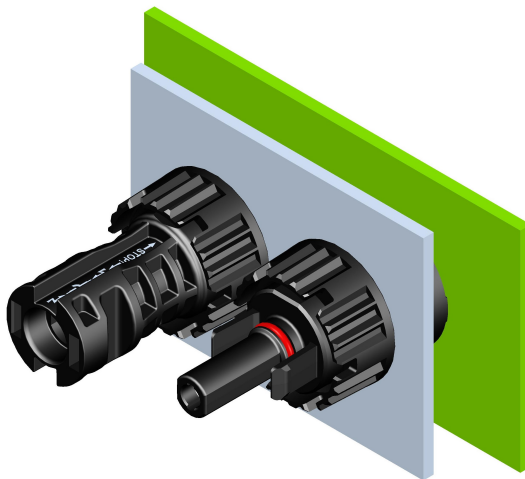

Figure 3
- ✧ 安装公/母面板连接器时，推荐用 2.0 N.m 的扭矩锁紧螺母。具体情况，需要由终端用户根据不同的面板验证合适的扭矩 (如图 3)。
When installing the male or female panel connector, it is recommended to lock nut by 2.0 N.m torque. The appropriate torque has to be verified in the end use according to the respective housing (Fig.3).